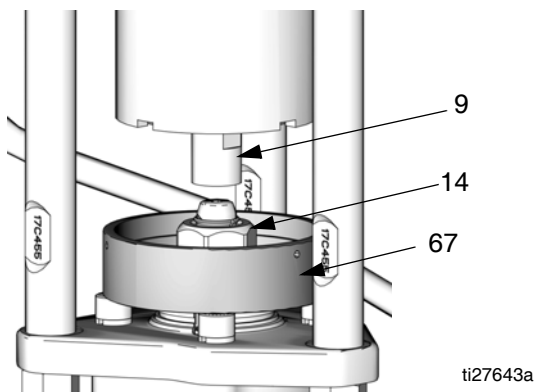

FIG. 9. Position Collector
2. Jog motor to move slider piston (9) up, giving adequate clearance to fit collector (67) between slider cylinder and piston rod.
3. See FIG. 9. Position the collector (67) over the coupling nut (14) and drop it down onto the pump piston rod.